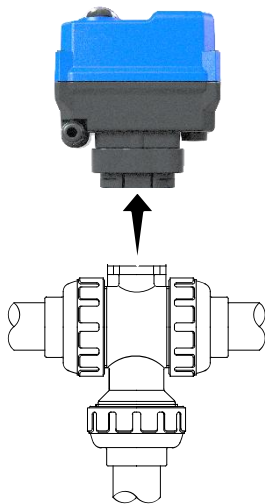

Figure 9.1-1
- 2) Remove the actuator according to the removal procedure in ""10. Actuator Attachment/Detachment Method"" (Figure 9.1-1).